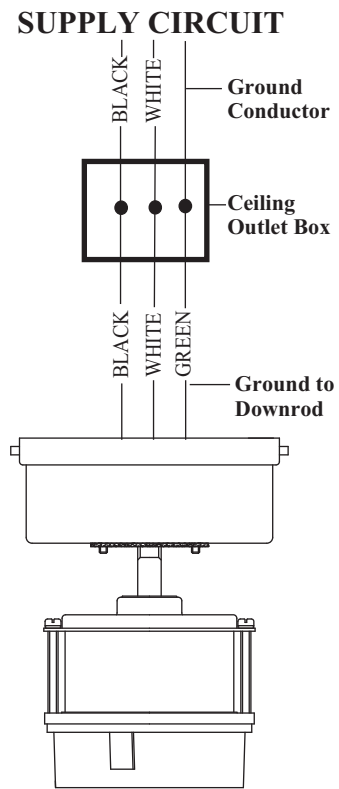

Figure 7
1. Connect the fan supply (black) wire to the black household supply wire. (Fig. 7)